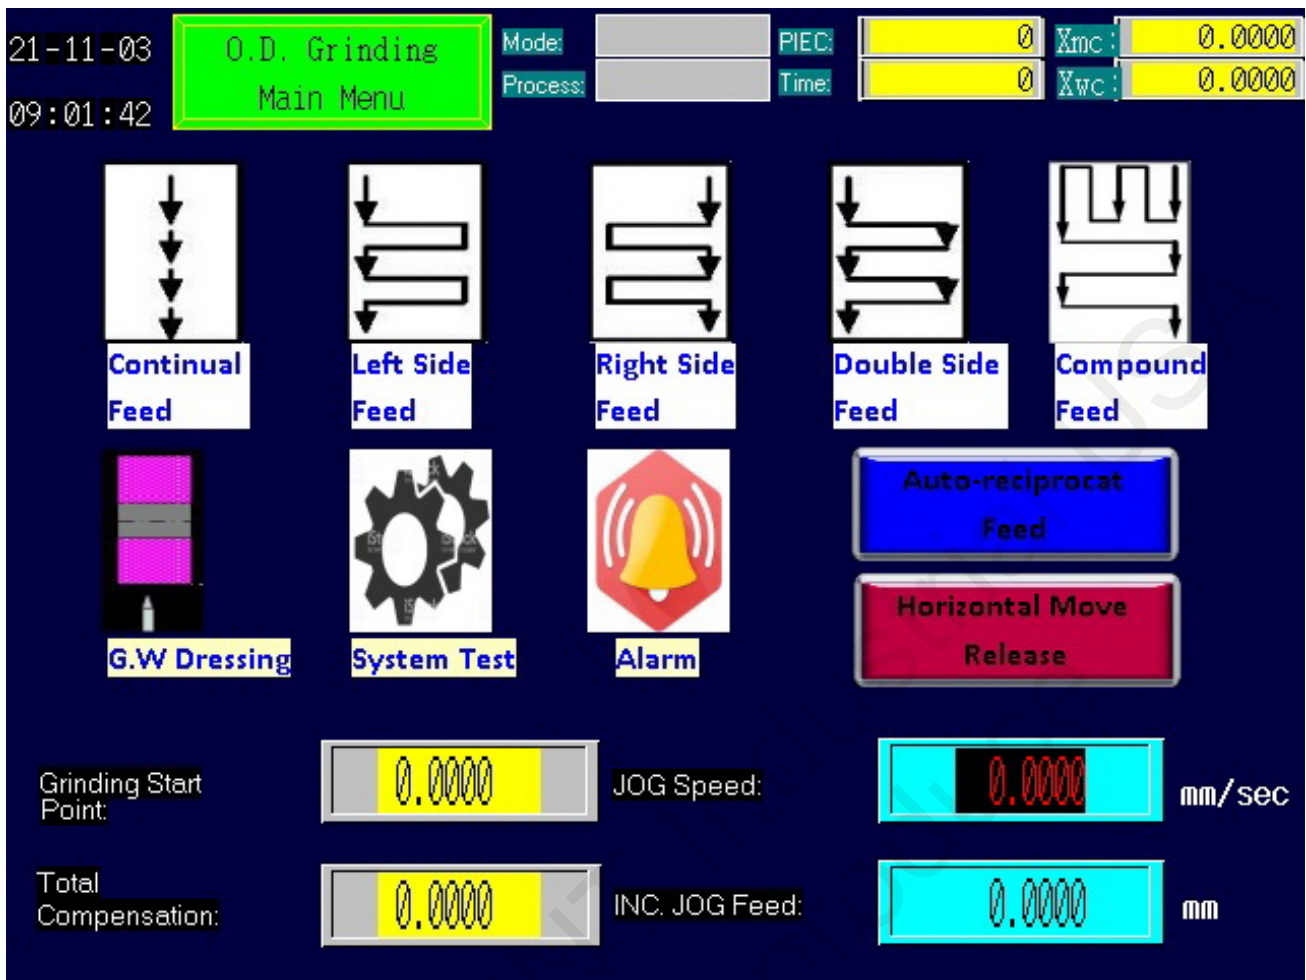

Figure 6-4
- A. During internal grinding, press grinding wheel quick feed button (17) is not working. Do notice the distance to keep safe when turns on the machine power.
I. Work-piece grinding method, As shown in Figure 6-4